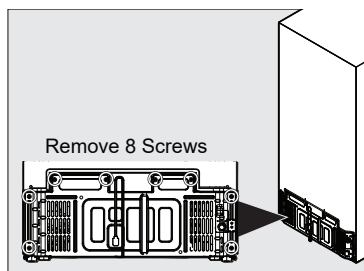

Figure 15
12. Remove 8 screws from access cover located at the bottom rear outside of the unit. Set aside. See Figure 15.